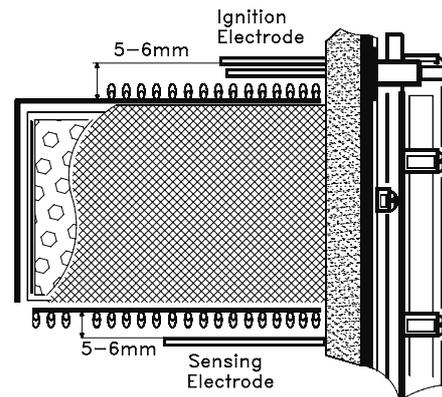

Fig. 31
- 7.4.7** Examine the spark and sensing electrodes for any mechanical damage, Clean away any debris and check the spark and sensing gap. See Fig.31.